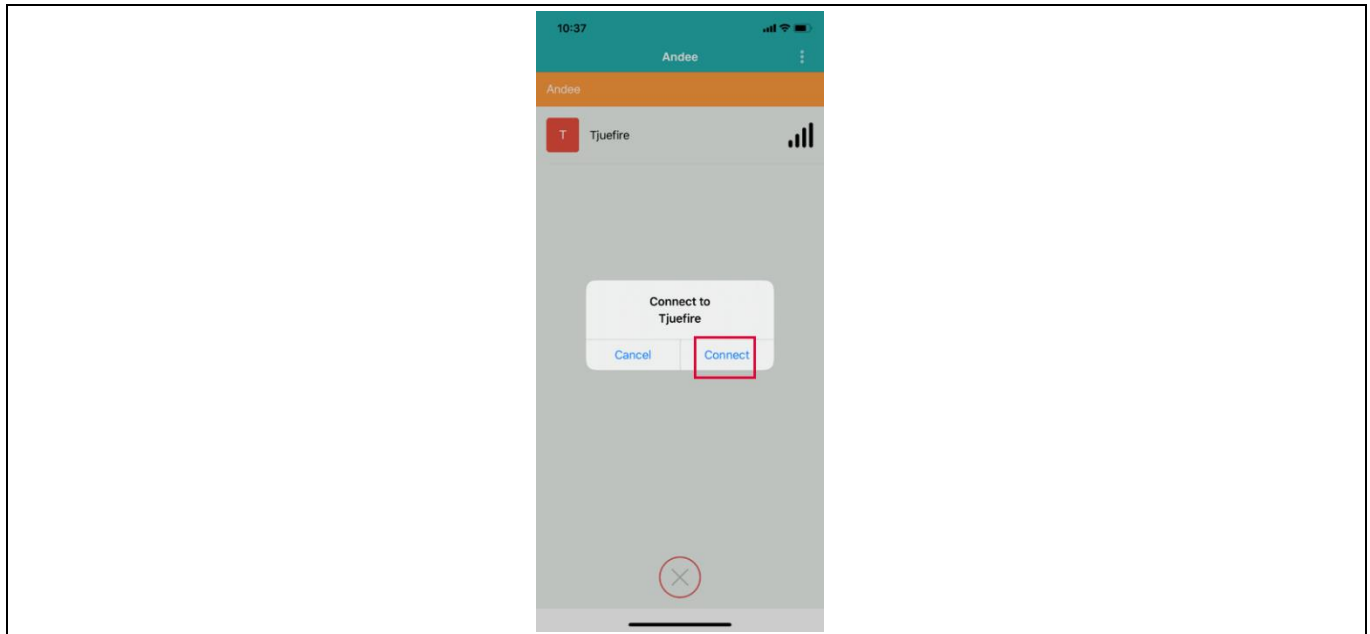

Figure 35 Andee app – connect to device
10. Click “Tjuefire”. When prompted, click “Connect” (Figure 35).